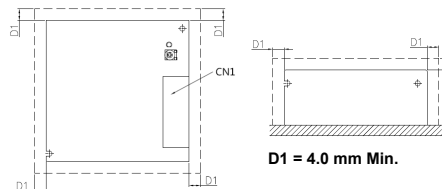

Fig. 4. Assembly Reference
- For safety reason, please ensure the mounted device is kept at $\geq 4\text{mm}$ safety distance at all sides from other components and equipments (Refer to Fig. 4).